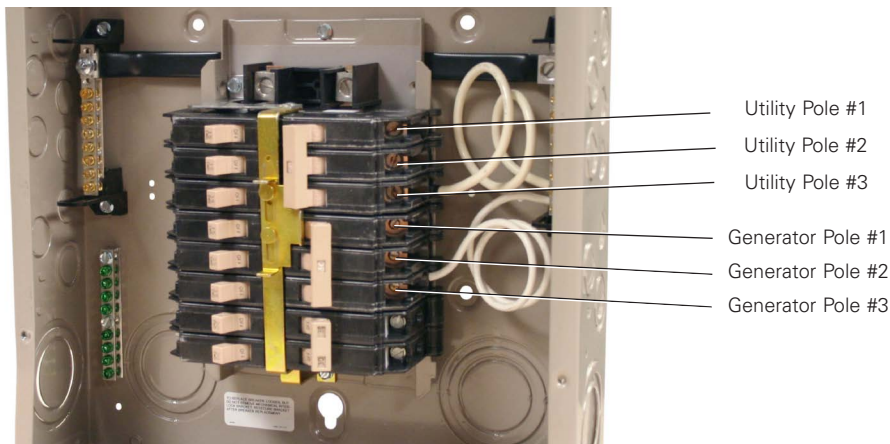

Figure 2. Connection Locations for a Separately Derived System.
- a. Connect the two hot wires from the utility to the utility breaker poles #1 and #2. Connect the utility neutral to the utility breaker pole #3. See Figure 2 for clarification.
- b. Connect the two hot wires from the generator to the generator breaker poles #1 and #2. Connect the generator neutral to the generator breaker pole #3. See Figure 2 for clarification.